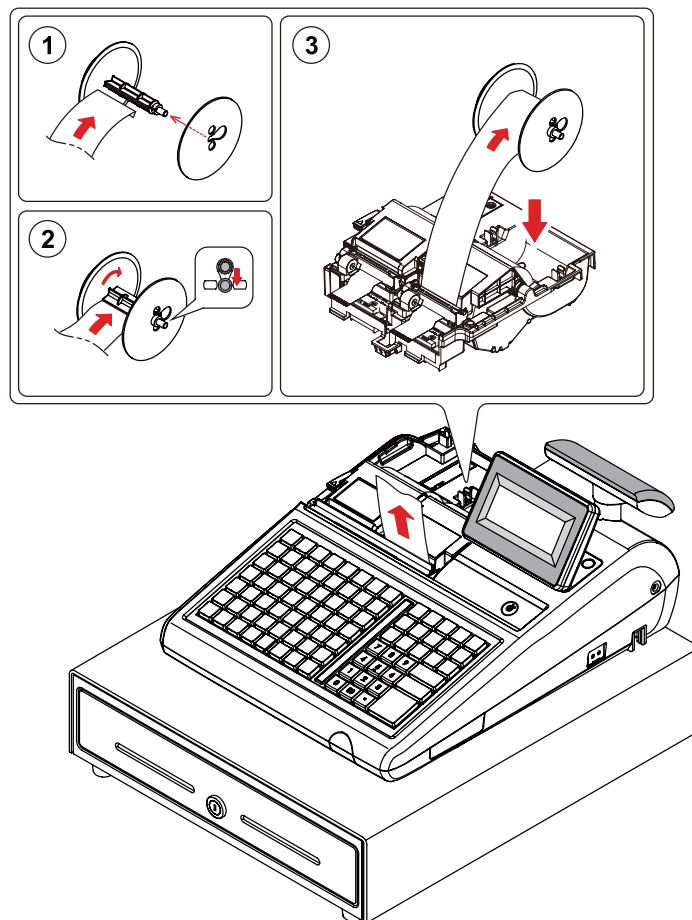
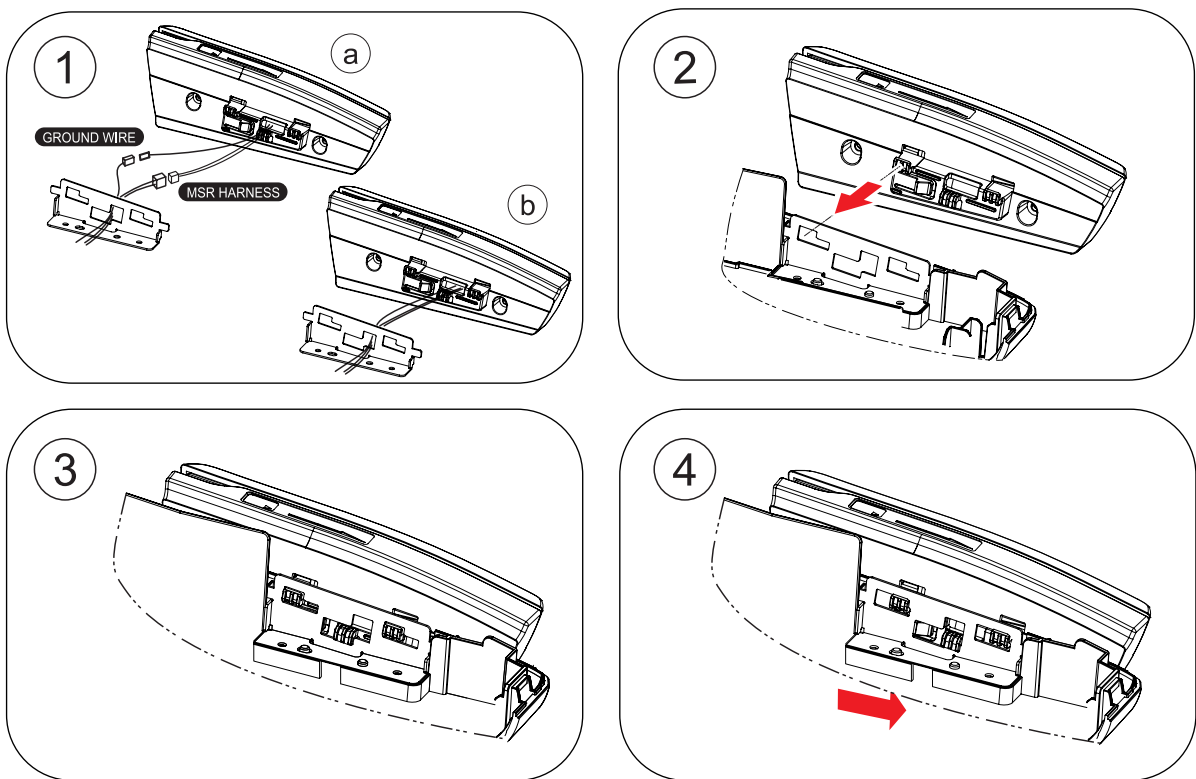

Figure 3-5 Spool Installation (2-Station)
Figure 3-7 MSR Installation (2)
8. Fold the end of the thermal paper about 20mm in length. Slide the leading end of the folded paper into the groove on the TAKE-UP SPOOL and wind it onto the SPOOL two or three turns as illustrated Figure3-5-①.
9. Put the removed GUIDE WINDING into the end of the TAKE-UP SPOOL WINDING and fix the removed GUIDE WINDING in the direction as shown in Figure3-5-②.
10. Place the TAKE-UP SPOOL into the PAPER-SUPPLY behind the PRINTER above the roll paper as illustrated Figure3-5-③.
3. Connect Ground Wire & MSR Harness of MSR Assembly to the main set as shown in Figure 3-7-①-①-a.
4. Tidy up the connectors of Ground Wire & MSR Harness by inserting them into the MSR Assembly (Connectors should be hidden inside the MSR Assembly), Figure 3-7-①-①-b.
5. Insert MSR Assembly into the main set bracket holes as in Figure 3-7-②, Figure 3-5-③.
6. Tighten MSR Assembly by moving it to the direction shown in Figure 3-7-④.